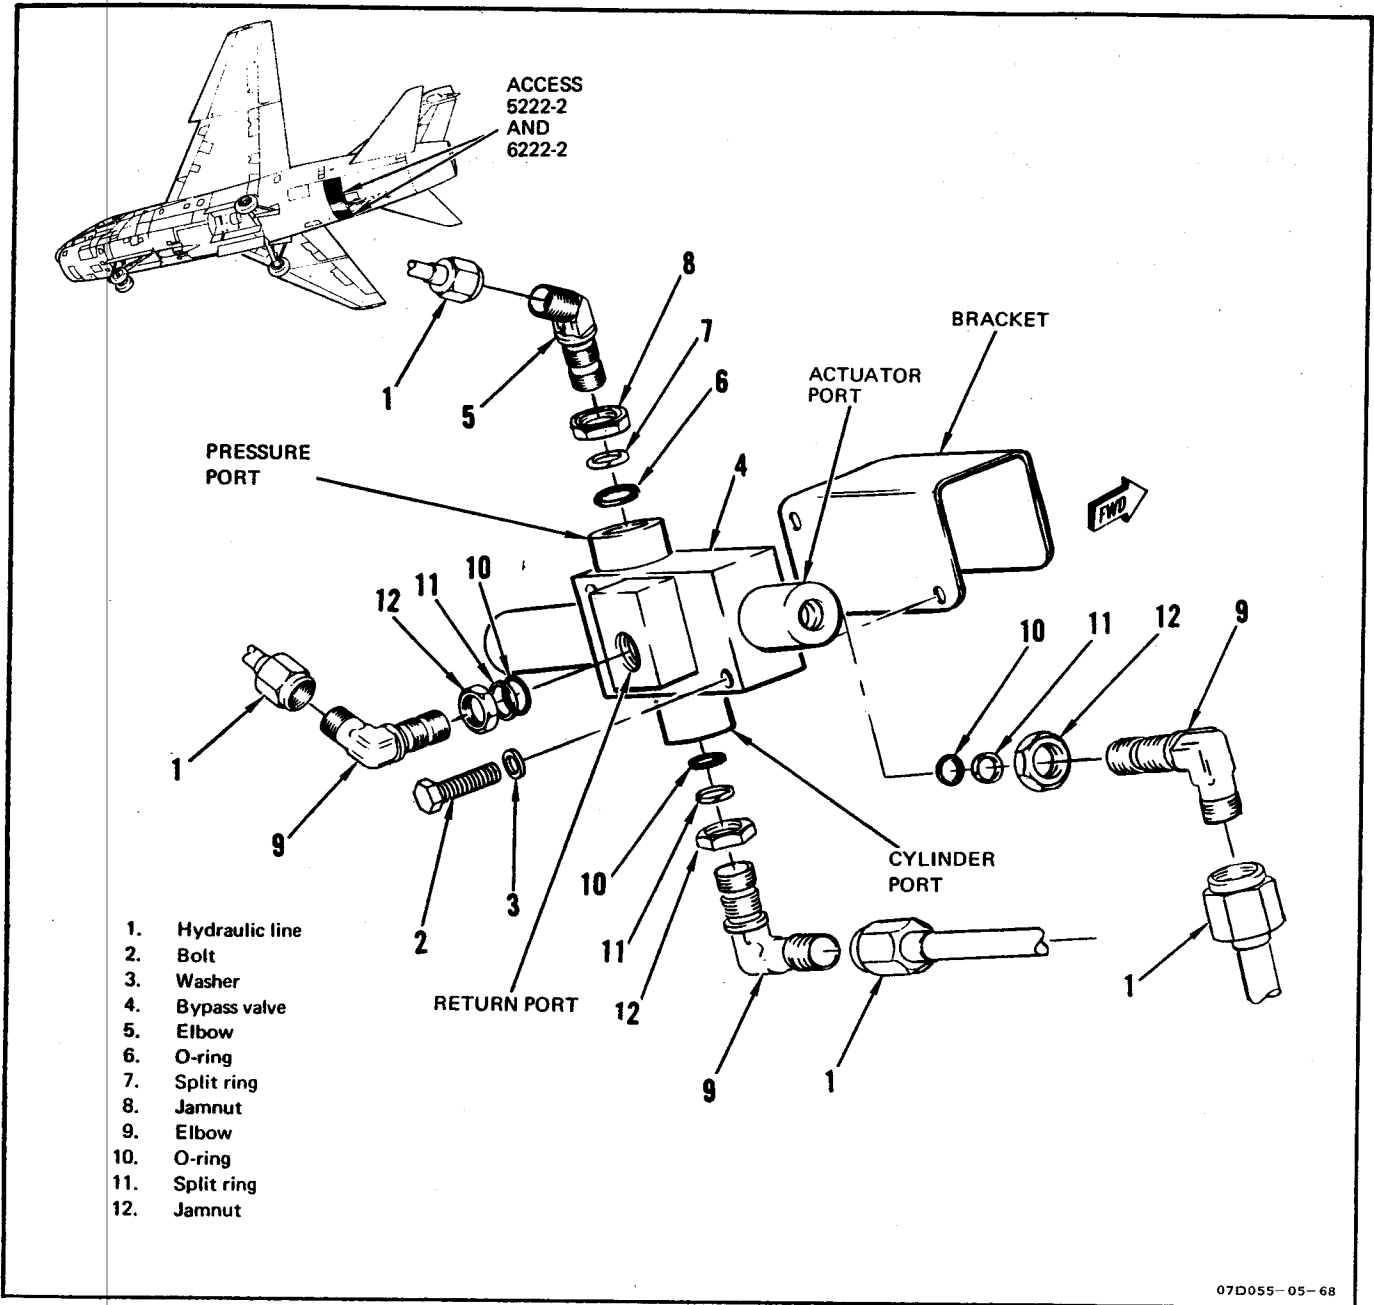

Figure 7-8. Pressure-Operated Bypass Valve Removal and Installation
**7-25. REMOVAL. (See figure 7-8.)**
- e. Disconnect hydraulic lines (1) from bypass valve. Cap lines.
- f. Remove two bolts (2) and washers (3). Remove bypass valve (4) from airplane.
- g. Loosen jamnut and remove elbow (5) from PRESS port. Plug port.
- h. Remove O-ring (6), and split ring (7), and jamnut (8) from elbow.
- i. Loosen jamnuts and remove elbows (9) from CYL, ACT, and RET ports. Plug ports.
- j. Remove O-rings (10), split rings (11), and jamnuts (12) from elbows.
**7-26. INSTALLATION. (See figure 7-8.)**
- a. Install jamnuts (12), new split rings (11) and new O-rings (10) on elbows (9).
b. Remove plugs and install elbows (9) in CYL, ACT, and RET ports. Do not tighten jamnuts.
c. Install jamnut (8), new split ring (7), and new O-ring (6) on elbow (5). Remove plug and install elbow in PRESS port. Do not tighten jamnut.
d. Place washers (3) on bolts (2) and insert bolts through valve mounting holes.
e. Position valve (4) on bracket and secure to airplane.
f. Remove caps and connect hydraulic lines (1) to valve. Tighten jamnuts (8 and 12).